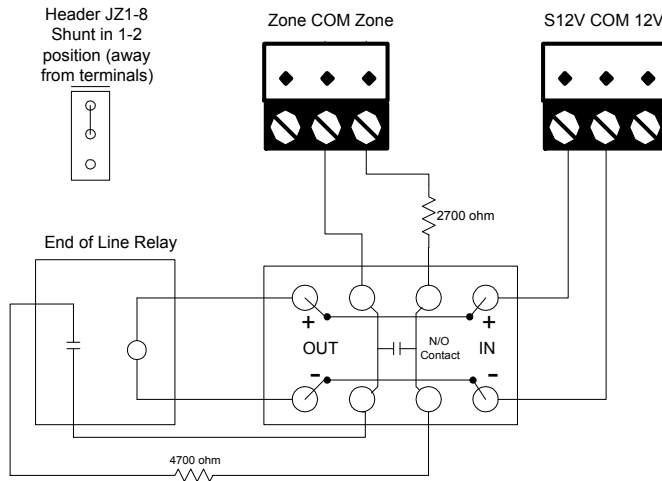

Figure 2.12 - 4 Wire Smoke Detectors for UL Installations
Smoke Detectors are connected as Normally Open (NO) or Normally Closed (N.C) zones with 2 EOL resistors. Follow the wiring diagram in Figure 2.12 for UL Installations. The 4700 ohm resistor should be connected in parallel with the last contact. The 2700 ohm resistor should be connected in series with the detector at the detector in order to be able to distinguish a ground fault (short-circuit) condition from a contact closed condition. The corresponding Header JZ1 to JZ8 should have a shunt (shorting link) inserted into the top position. Smoke and Heat Detector zones are programmed as Fire Zone Types. A Pulsed On/off siren pattern indicating Fire Evacuation is produced when this zone type is activated (by default). If the zone wiring is cut or open-circuit or shorted, a Zone Trouble alarm is generated.